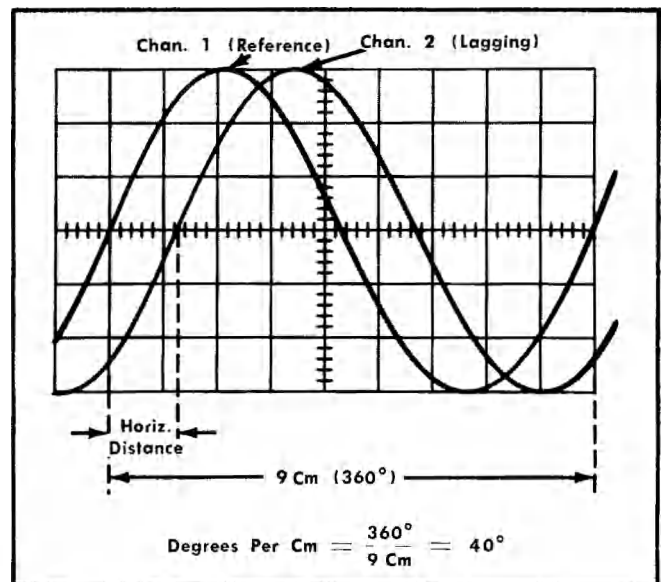

Fig. 3-3. Measuring phase shift between two sine waves.
For example, assume that the Time/CM switch setting is  $2 \mu\text{sec}$ , the Magnifier is set for  $5\times$  magnification, and there is a horizontal distance of 3 cm (as shown in Fig. 3-3) between the leading edge of the reference waveform and the leading edge of the waveform displayed by Channel 2. Then substitute these values in the preceding formula:
5. Turn the oscilloscope Variable Time/Cm control counter-clockwise until 1 cycle of the reference signal occupies 9 cm horizontally. Use the Trigger Slope and Triggering Level controls to trigger on the reference waveform at any point you desire. Each cm on the graticule now represents  $40^\circ$  of 1 cycle (see Fig. 3-3).
6. Measure the horizontal distance, in cm, between corresponding points on the waveforms. Note the distance and whether the Channel 2 waveform is leading or lagging (see Fig. 3-3).